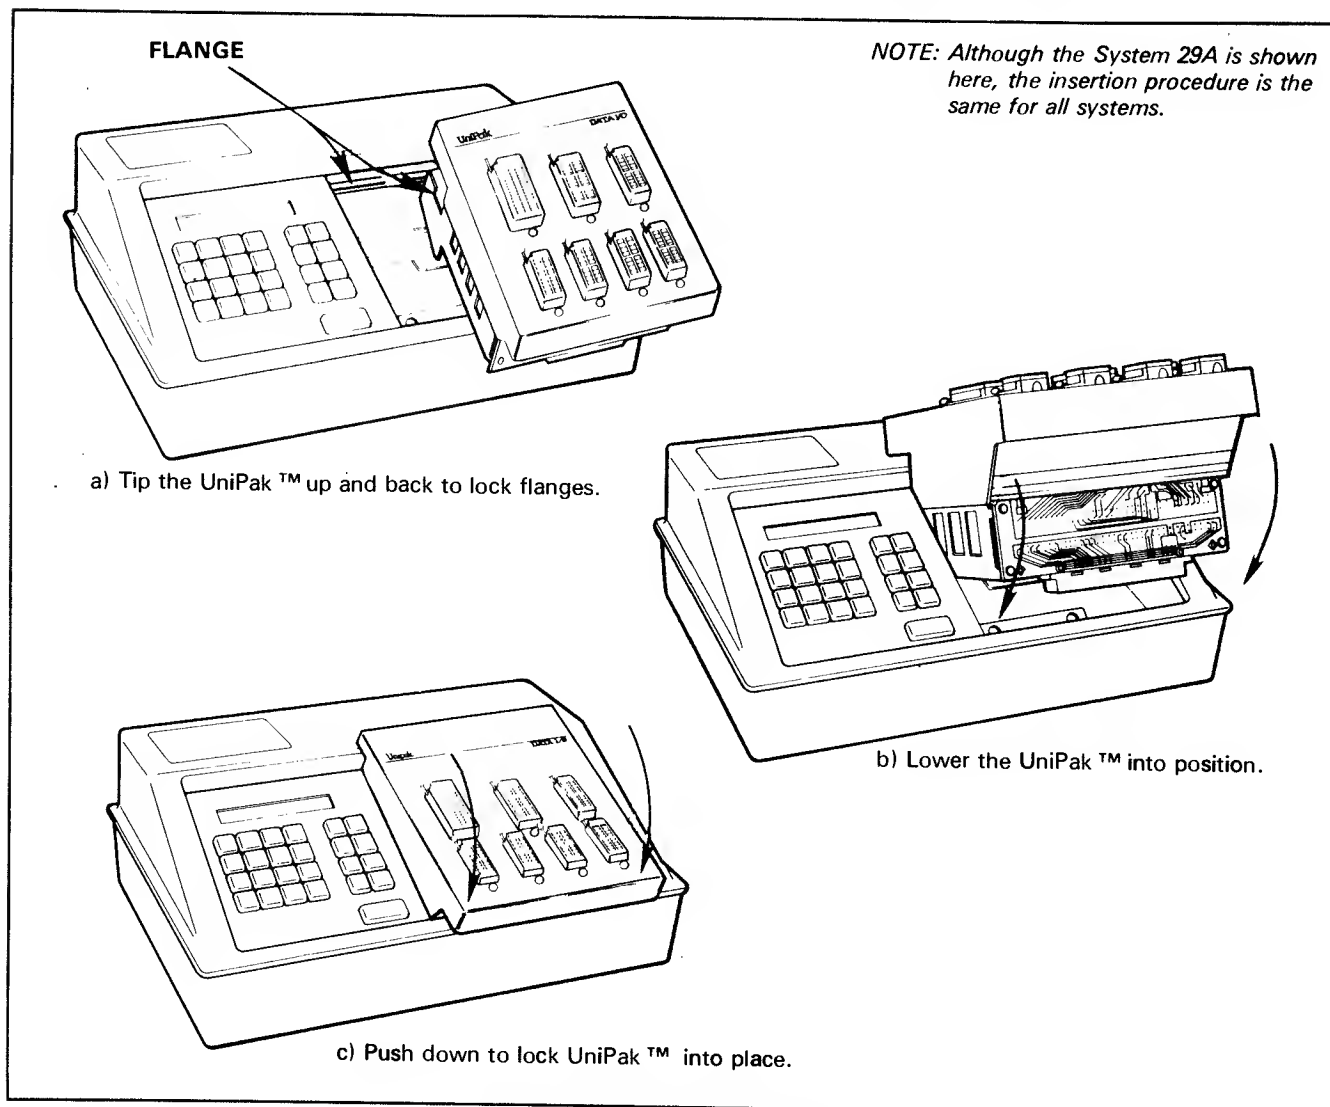

Figure 2-1. UniPak™ Installation
1. Slide the UniPak™ into the opening in the programmer (figure 2-1).
2. Tilt the UniPak™ up and gently push it back to hook the flange of the UniPak™ over the back edge of the programmer opening (figure 2-1, a).
3. Lower the UniPak™ into position as shown in figure 2-1, b.
4. Press gently on the front edge of the UniPak™ to ensure a good connection (figure 2-1, c).